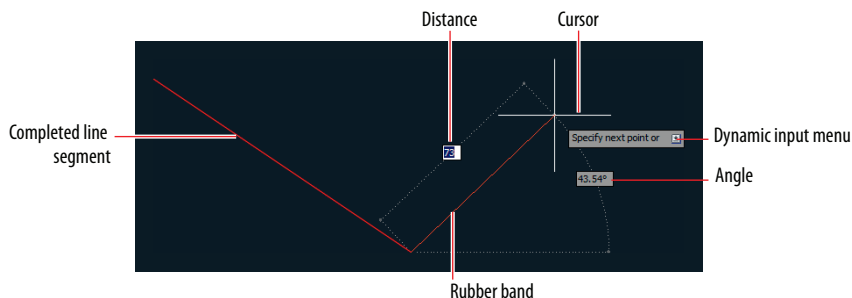

FIGURE 2.7 Drawing a line
- Type `L` (for `LINE`), and press Enter. Click two arbitrary points to define a line object (see Figure 2.7).